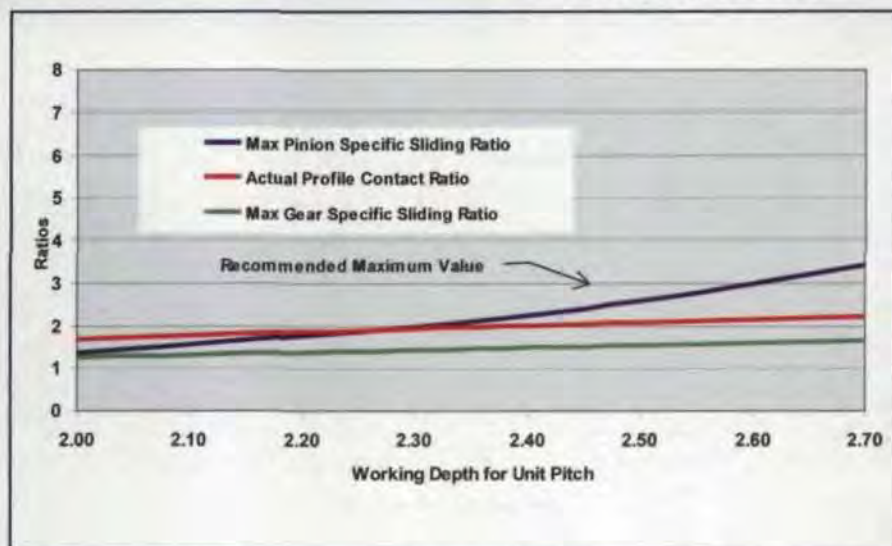

Figure 3—Tooth depth influence on sliding and contact ratios (addendum factors  $\pm 0.20$ ).
**Modified Addendum Design.** If the pinion is made with a long addendum and the gear is made with a short addendum, the bending strengths are closer to a balanced condition. Figure 3 shows the positive effect of the addendum change on the specific sliding ratios. The pinion specific sliding ratio is reduced from 8.0 to 3.4, a 57% reduction.